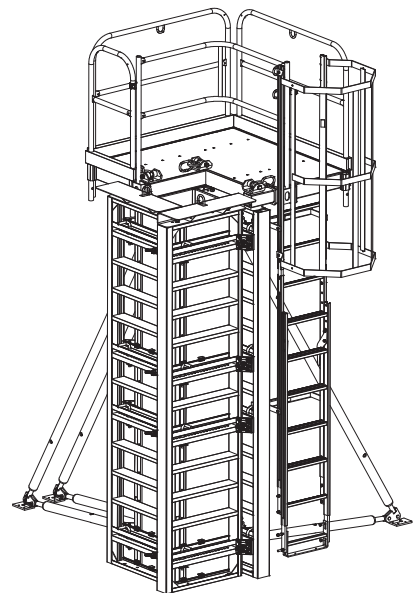

Fig. A3.08
4. Detach lifting gear. (Fig. A3.08)